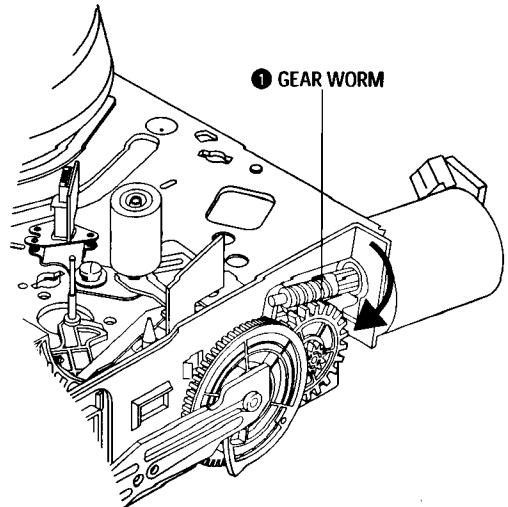

Fig. 1-33
- 3) Rotate Gear Worm 1 clockwise using screw driver again up to the state of eject mode and then pick out the tape.(Refer to Fig.1-33)